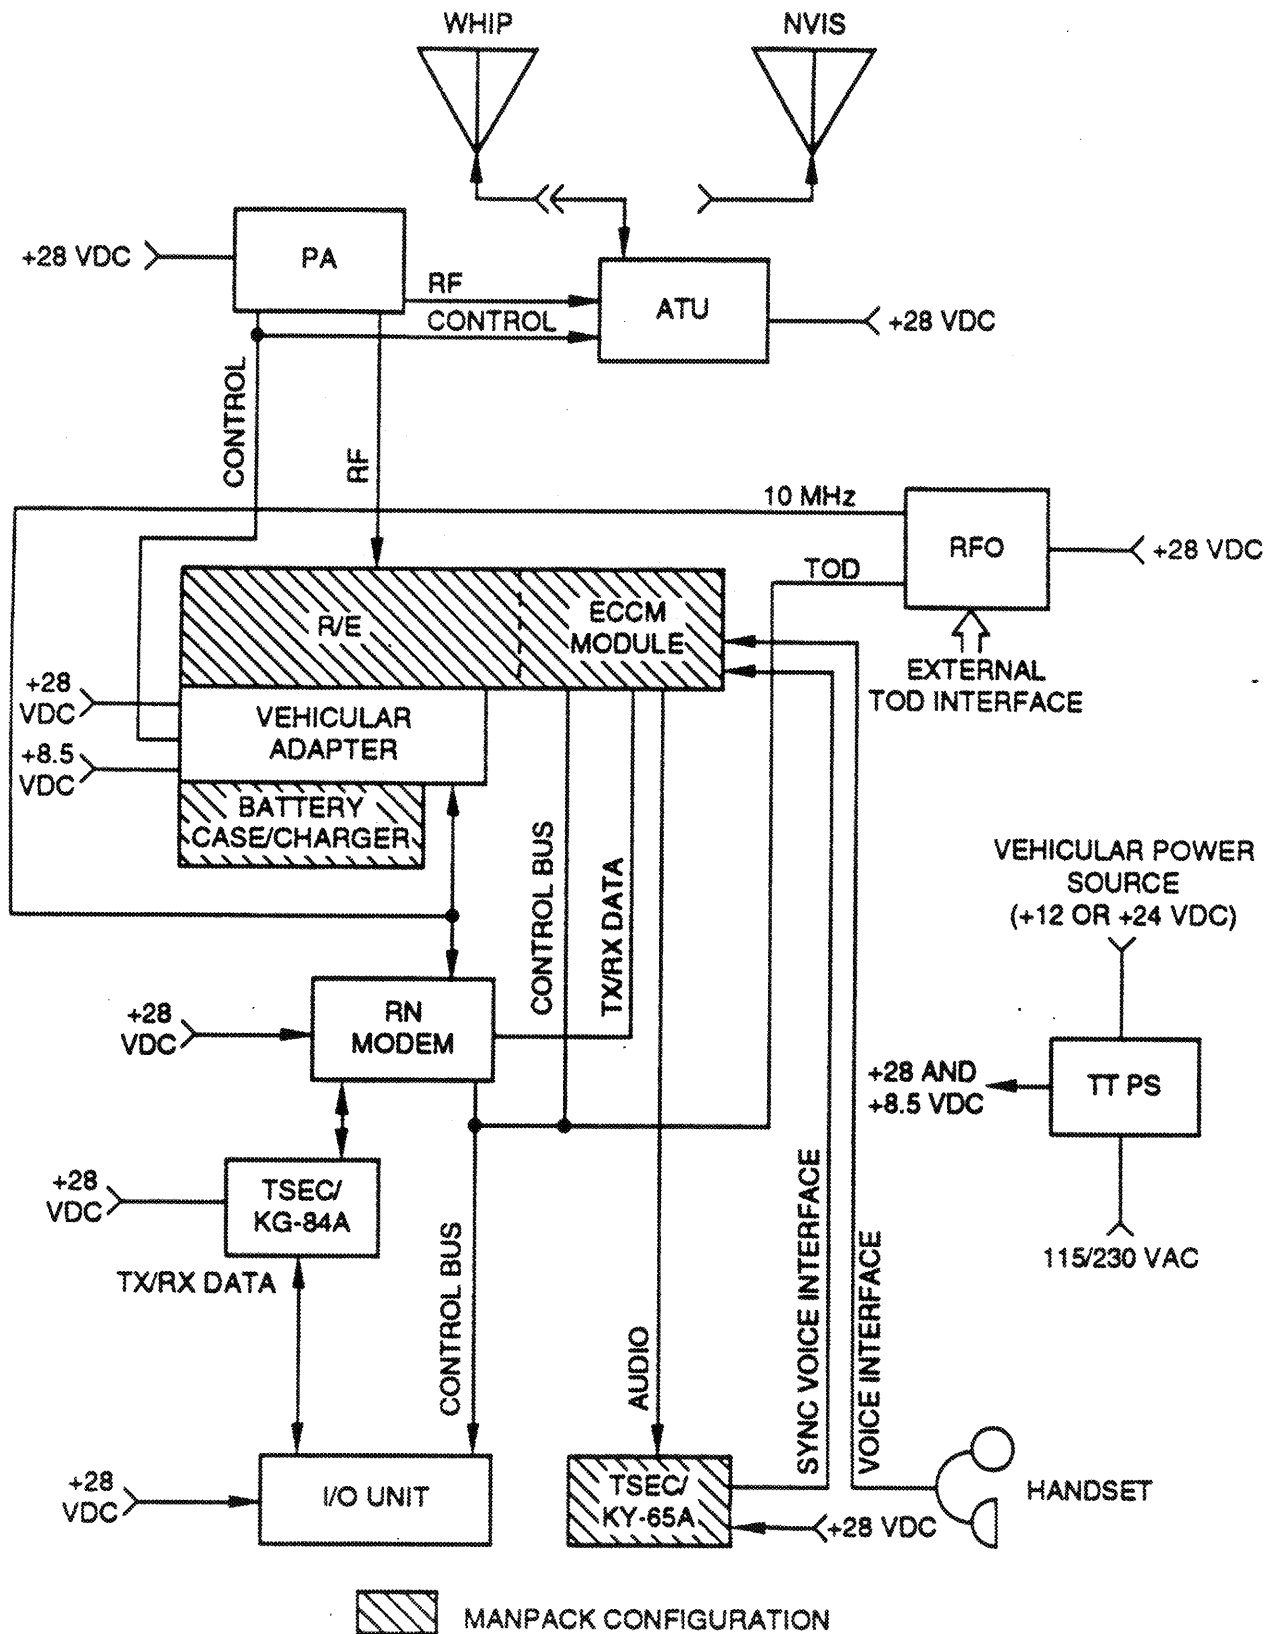

Figure 4-1. Team Terminal Functional Block Diagram
The Team Terminal is capable of single channel communication in Non-ECCM, Training-ECCM, and ECCM data modes. It is capable of voice operations in Non-ECCM and ECCM mode. Remote Team Terminal data operation has the same capabilities as the non-remoted data mode. Remote voice operation is possible only in Non-ECCM mode. The Team Terminal can use either the whip or NVIS antenna to support its operational modes. The Manpack can use Non-ECCM or ECCM voice modes. All modes can be secure or non-secure, except remote voice which is non-secure only. Reference Figure 4-1 for a system functional overview.
In data mode, the receive HF signal from the antenna passes through the Antenna Tuning Unit (ATU) to the Power Amplifier (PA), where it is filtered, and then to the R/E (Figure 4-1). The R/E demodulates the HF signal and turns it into audio baseband. This is sent to the RN modem which converts it to digital data. In secure data mode, the data is passed from the modem to the KG-84A for decryption and then passed to the I/O Unit for message processing. In non-secure data mode, the data is passed directly from the Modem to the I/O Unit. The I/O Unit is used by the operator to select operational modes, message transmission/reception sequences, and BIT operations. Messages are prepared for transmission by the operator using the display/keypad assembly (D/K). Transmission is the reverse of receive signal flow but with the R/E and PA amplifying and filtering the RF output signal.